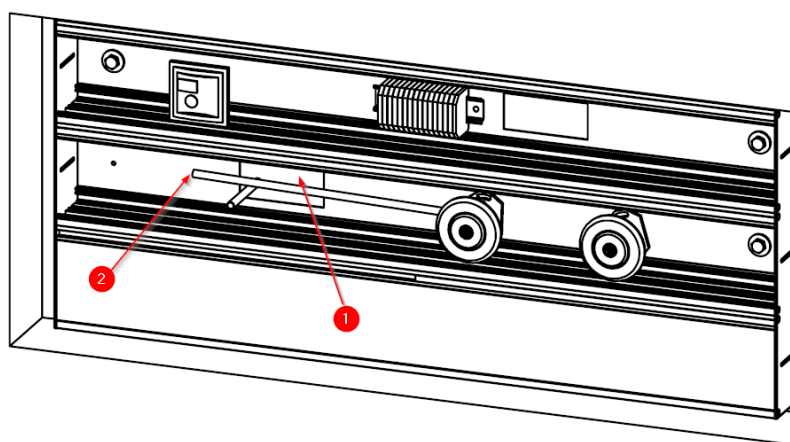

Fig.9 Medical gas and vacuum connection inlet
The gas circuits shall be connected in the inlet area of the pipes of the installation (1), and the installation plan shall be checked before starting the operation. The gas corresponding to the beginning of each circuit (2) is identified in the same way in each unit (see Fig. 9).